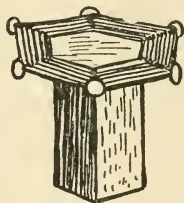

FIG. 405.
**A Small Tabouret** is shown in Fig. 405. Select a straight cork for the base of this, and, after seeing that a good sharp edge is upon your knife, slice the cork lengthwise, making it hexagonal in shape. Then stick six pins